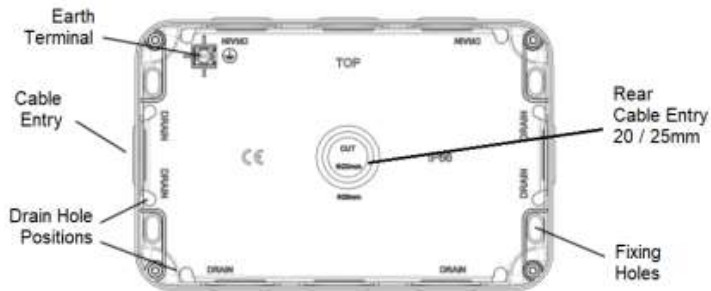

Fig. 2
- The backbox has drain hole drilling guides marked (see Fig. 2). Drilling a drain hole is advised if the unit is installed in a location subject to temperature fluctuations where build-up of condensation may occur. It is not advised if the unit will be subject to spray or jets, as drilling a drain hole will reduce the IP rating. A 3-5mm hole can be drilled at the bottom back edge of the enclosure where marked. If wiring in conduit to the bottom entry, then the drain hole should be drilled at the lowest point of the conduit run not in the backbox